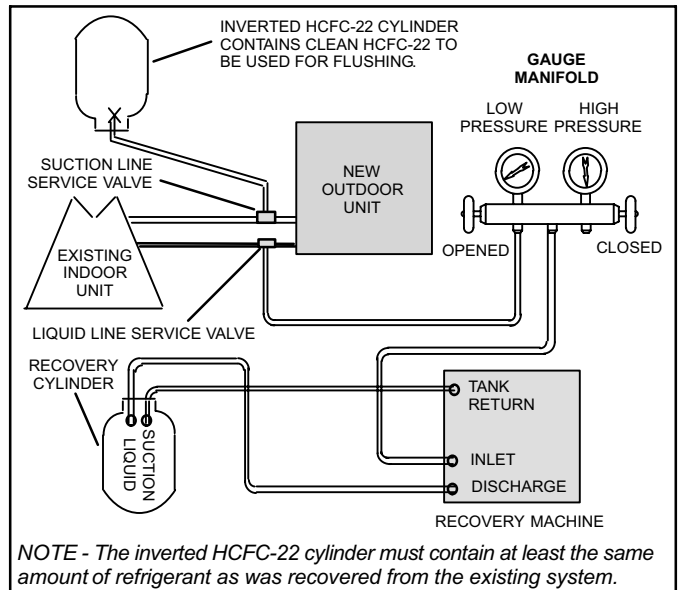

**Figure 17. Typical TXV Removal**
4. Remove the suction line sensing bulb as illustrated in figure 17.